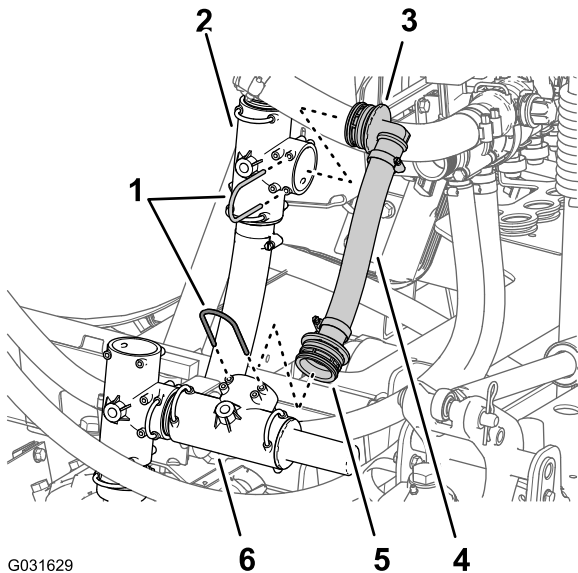

Figure 34
1. Remove the retainer that secures the straight-barbed fitting of the pressure-relief hose to the pressure relief valve for the sprayer system (Figure 34).
2. Remove the retainer that secures the 90° barbed fitting of the pressure-relief hose to the T-fitting for the supply circuit of the sprayer pump (Figure 34).
3. Remove the pressure-relief hose and fittings from the machine (Figure 34).